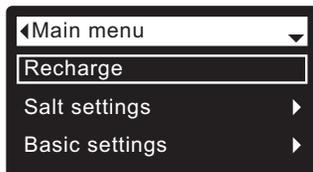
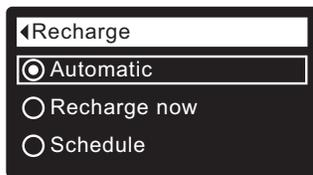
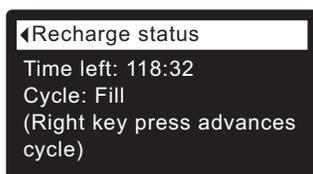

FIG. 39
FIG. 40
FIG. 41
2. Make sure **Recharge** is highlighted (See Figure 39).
3. Press the SELECT (O) button to display the Recharge menu (See Figure 40).
4. If the desired option already has a dot next to it (See Figure 40), go to Step 5. Otherwise, press the DOWN (▼) or UP (▲) buttons to scroll to the desired option, then press SELECT (O) to choose it.
- **Recharge now** begins a recharge immediately after the SELECT (O) button is pushed again in Step 5.
5. Press the SELECT (O) button. If **Recharge now** is selected, the display immediately goes to the Recharge status screen (See Figure 41). If **Automatic** or **Schedule** are selected, the display goes back to the Main menu (Figure 39).